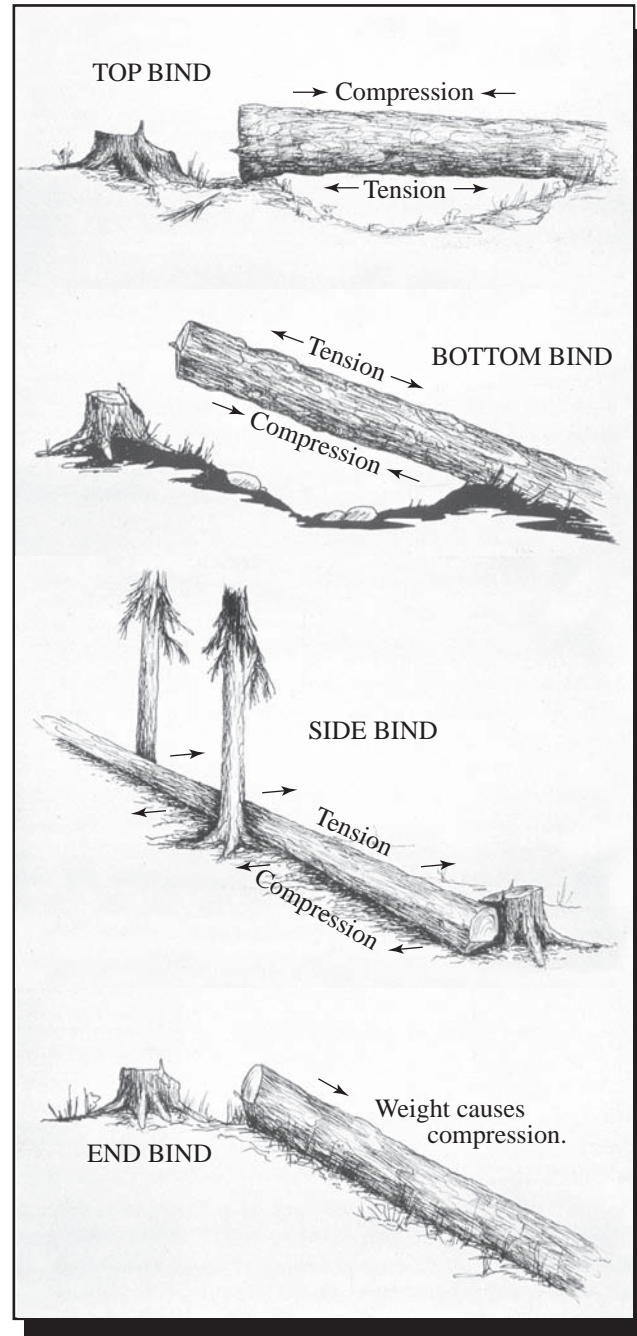

Figure 4-7—There are four types of binds. A log can have a combination of two or more binds.
**Determining Bind**—The four types of bind are: top, bottom, side, and end. Normally, logs have a combination of two or more binds (figure 4-7).